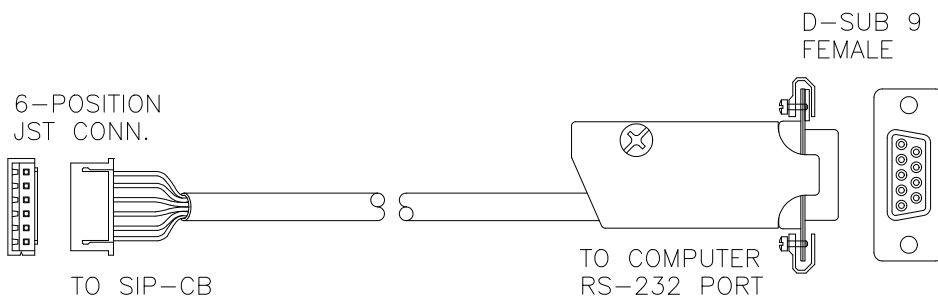

Figure 4-1
- Programming adaptor cable (RS-232) as illustrated in Figure 4-1. This item can be ordered under Mercury part number 1002-0299C-001.